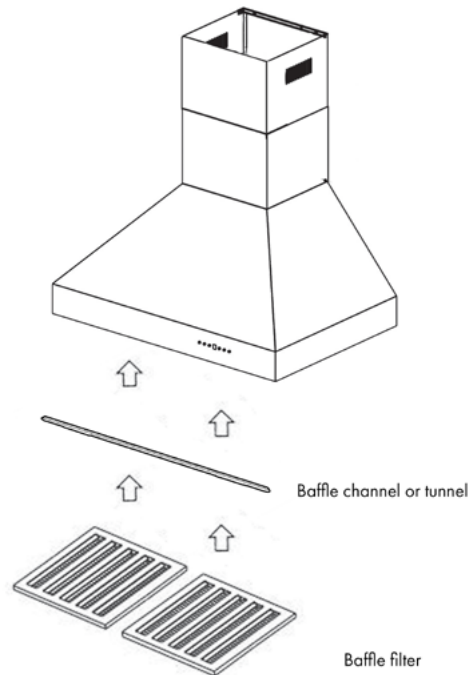

Figure 8
- Install the baffle channel (if applicable) and baffle filters. Depending on the model, not all range hoods include a baffle channel or tunnel. *Figure 8*